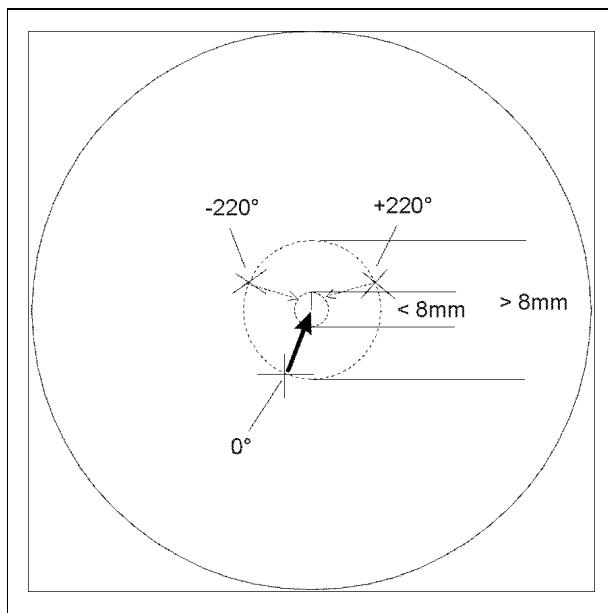

Fig. 9
- Mark the center of the washer or of the lead cross on the monitor (see Fig. 9).
- Mark the center again on the monitor (see Fig. 9).
- Move the camera optics towards the center, between the two +220° and -220° markings (see also Fig. 9).